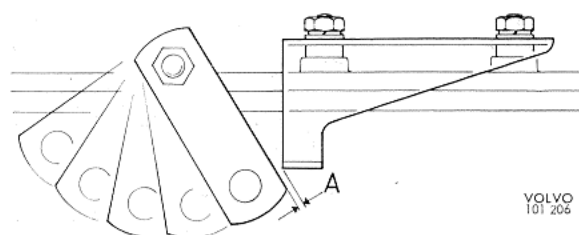

Fig. 78. Stop for lever
28. On cars which have six control positions, the stop bracket is fitted as shown in Fig. 78. Adjustment is carried out as follows:
- B. Push the stop bracket forwards so that it comes $\frac{1}{8}$ — $\frac{5}{32}$ " (3—4 mm) from the lever see "A" Fig. 78. Tighten the bracket in this position.